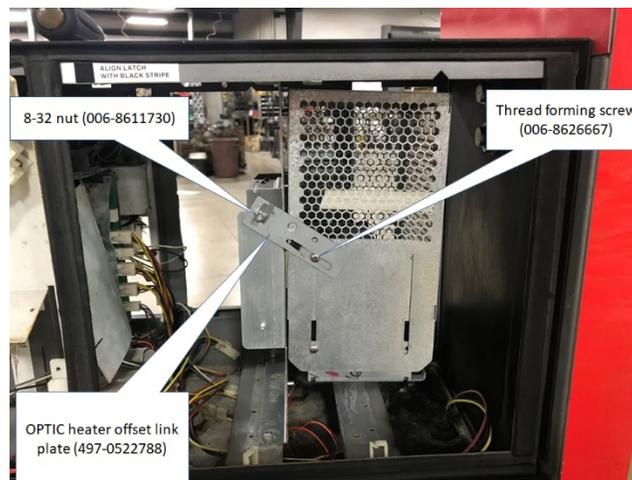

Figure 98
7. Mount the NCR heater and wire guard (497-0522796) assembly onto the power supply assembly bracket by using the OPTIC heater offset link plate (497-0522788) to join both parts with the provided thread forming screw (006-8626667) and 8-32 nut (006-8611730). See Figure 98.